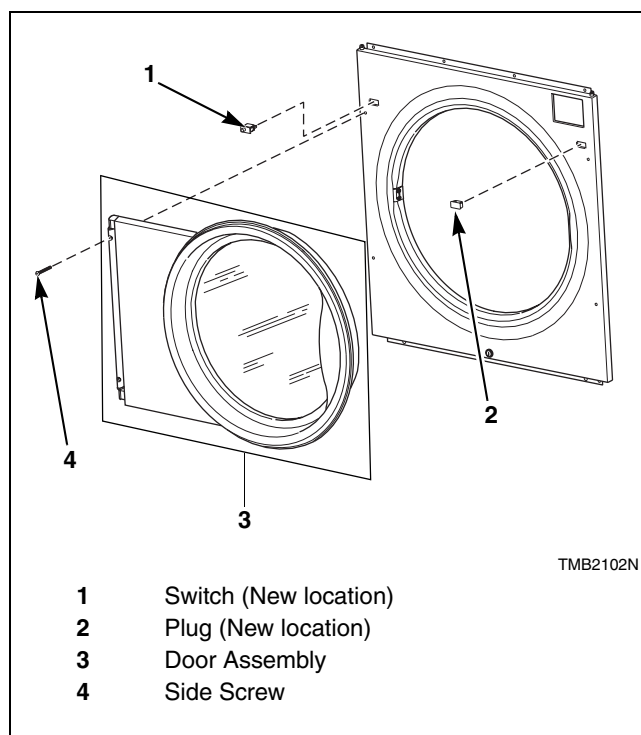

Figure 6
10. Remove opposite door hinge cam. **DO NOT DISCARD CAM AND NUT.** Reattach door hinge cam to door hinge assembly securing with screw. Install door assembly and four door hinge side screws loosely. Refer to *Figure 6*.